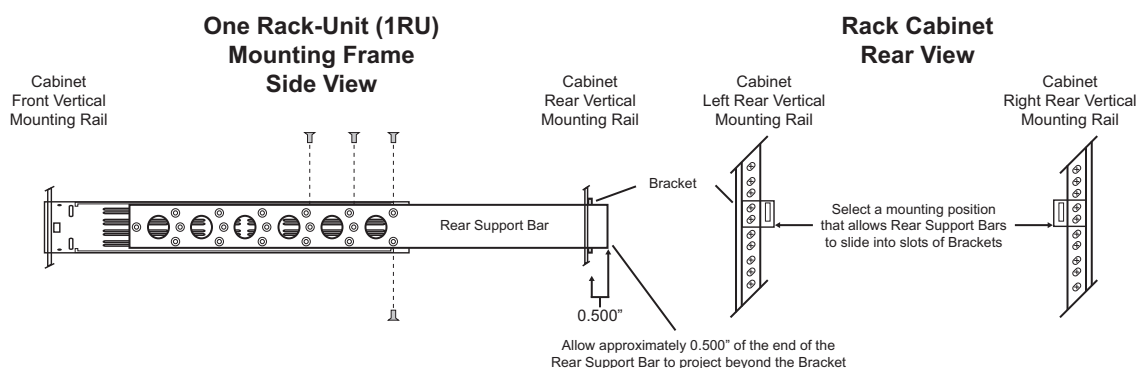

Figure 2.1 Installing the Support Brackets
In some cases, (mobile trucks, etc.) it may be desirable to also support the rear of the ACO-4400A. The rear support bars can be attached to the ACO-4400A in six possible positions. (Figure 2.1)
2. Using four screws per bracket (Ross P/N 2101-3005-RC), as shown in **Figure 2.1**, attach both bars.